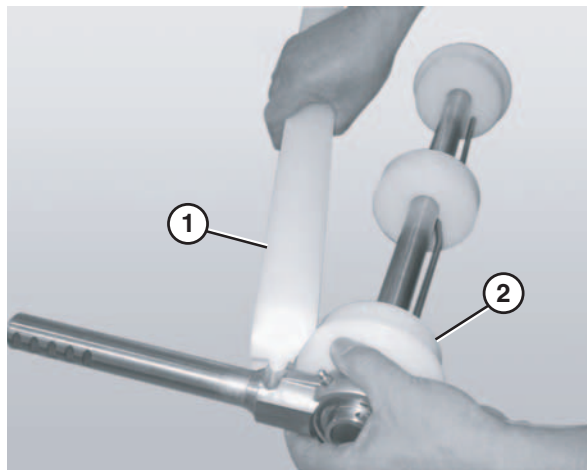

Figure 75
6. Remove the guard bar (Figure 75, item 1).
7. Remove the pucks (Figure 75, item 2).